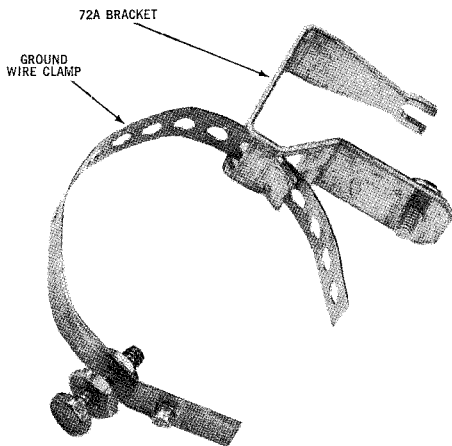
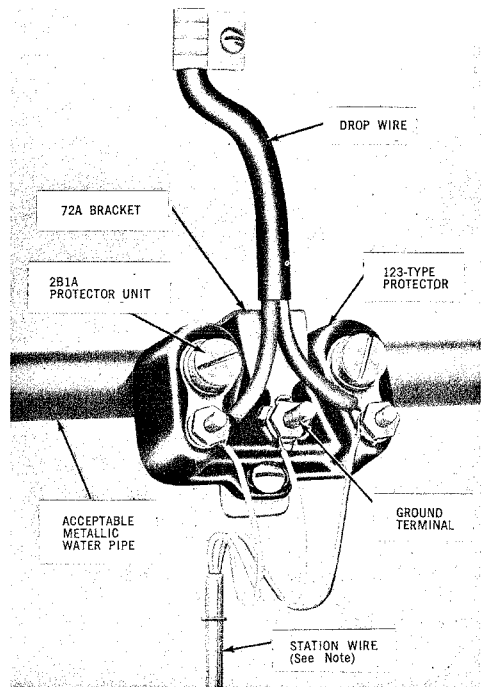

Fig. 8 — Station Ground Wire Clamp Through Slot in 72A Bracket
Fig. 13 — 123 Type Protector Installed With 72A Bracket
3.04 The 72A Bracket (Fig. 8) is used to mount a 123A1A protector on an acceptable metallic cold water pipe or to a power stack by means of a station ground clamp (Figs. 13 and 14).
4.11 Place ground wire clamp through slots in 72A Bracket shown in Fig. 8 and attach ground wire clamp to pipe in usual manner. Remove screw from 72A Bracket and slide protector
into place, making sure the notched portion of the clamp is under the pronged washer of the protector ground terminal. Place screw through mounting hole in protector and into threaded hole in the bracket. Tighten mounting screw and protector ground terminal nut thoroughly. A protector mounted in this manner is grounded through the 72A Bracket and eliminates the use of station ground wire. (See Fig. 13.)